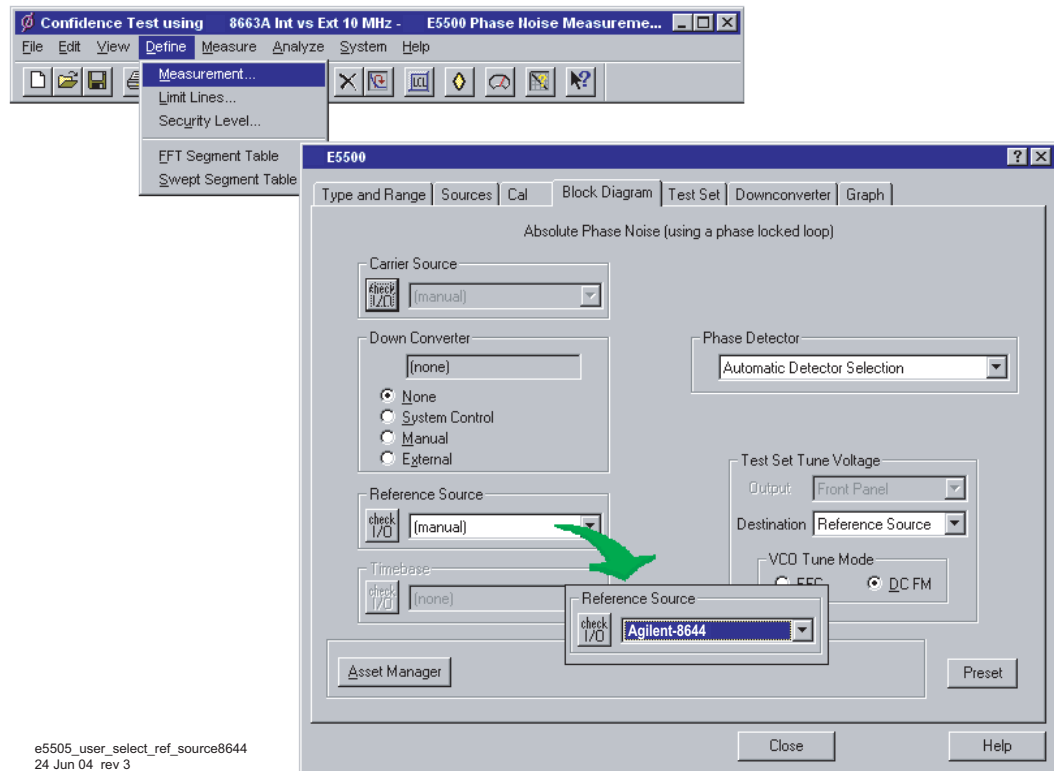

Figure 50 Selecting a reference source
- 1 From the **Define** menu, choose **Measurement**; then choose the **Block Diagram** tab from the **Define Measurement** window. See Figure 50.